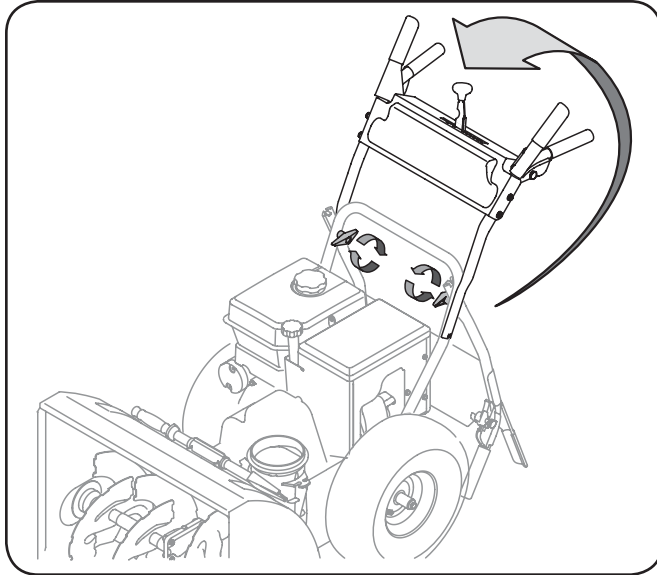

Figure 3-11
2. Observe the lower rear area of the snow thrower to be sure both cables are aligned with roller guides before pivoting the handle upward. See Fig. 3-11.